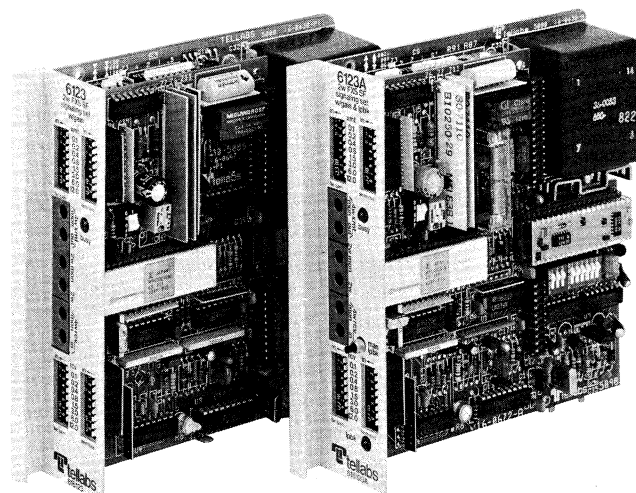

figure 1. 6123 and 6123A 2Wire FXS SF Signaling Sets with Gain
1.01 The 6123 2Wire FXS SF Signaling Set module with Gain and the 6123A 2Wire FXS SF Signaling Set module with Gain and Loopback (figure 1) each provide signaling and transmission interface between a 4wire facility that uses single-frequency (SF) signaling and a 2wire metallic station loop or PBX trunk that used the type of loop signaling normally associated with the station end of a foreign-exchange (FX) or off-premises-extension (OPS) circuit. Both modules provide active level control and amplitude equalization in the transmit and receive paths as well as full-duplex conversion between the SF signaling on the 4wire facility and the FXS (foreign-exchange, station-end) signaling on the 2wire station loop or PBX trunk. Conventional 2600Hz SF tone is supplied by an integral oscillator. The 6123 and 6123A differ from ordinary 2wire FXS SF signaling sets in that they each contain an integral line amplifier to accommodate a variety of facility interface levels. Unlike the 6123, the 6123A contains loopback circuitry to facilitate local or remote testing of the module and the facility. As members of Tellabs' 262U Universal Network Terminating System of modules and enclosures, the 6123 and 6123A each fulfill Registered Facility Interface Codes OC13A, OC13B, OC13C, OL13A, OL13B, and OL13C for applications where the serving telephone company uses facility-side SF signaling.